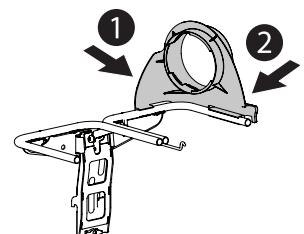

Figure 9
- Snap the upper chute support (731-17091) in place by first clipping the side portion onto the hanger assembly rail (1), as shown in Figure 9.
- Snap the front side of the upper chute support to the rail (2), as shown in Figure 9.